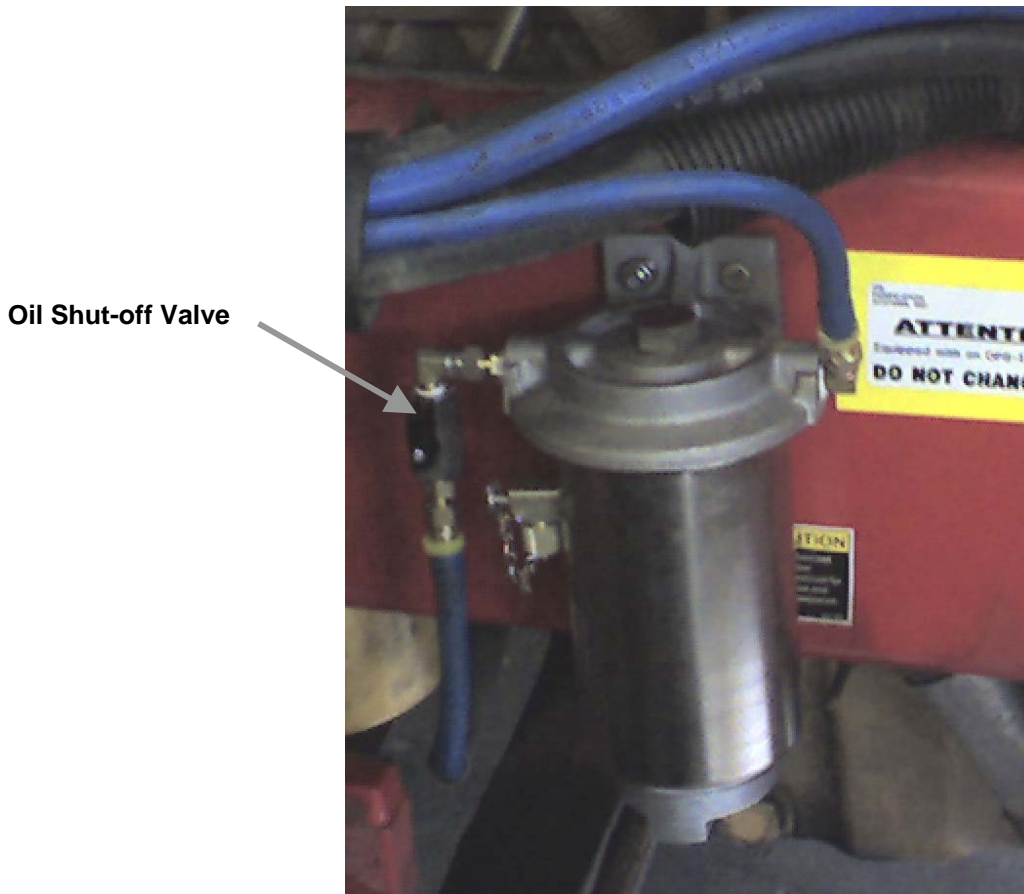

Figure 10 – Location of Shut-off Valve on the Filter
1. Open the Oil Shut-off Valve on the Filter. See Figure 10.